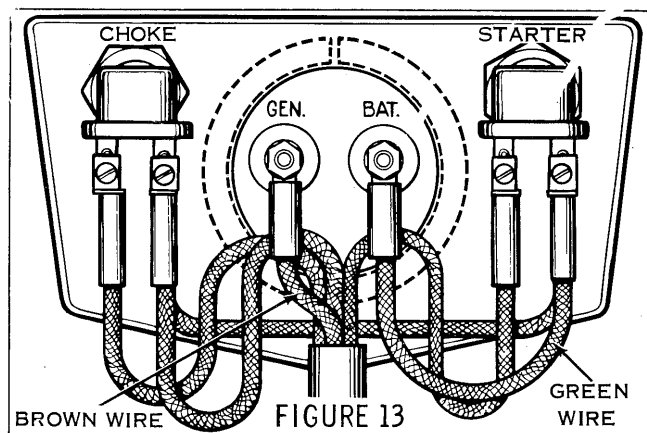

FIGURE 13
7. There is a green wire on one ammeter terminal as received in the kit. Connect the other end of this wire to the terminal of the switch with the single green wire (starter switch). Both terminals must be on one screw. See Figure 13.
8. Remove the insulating cover from the unused brown wire on the switch to junction box cable. Connect the wire to the vacant ammeter terminal post. See Figure 13.